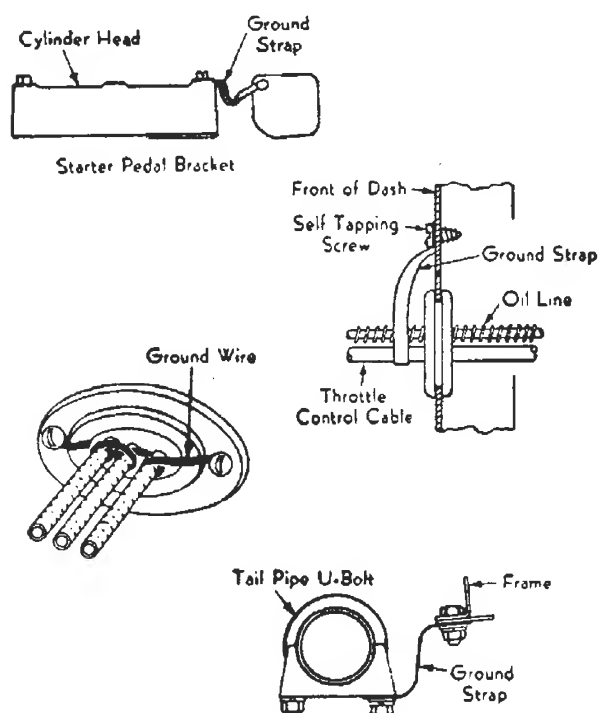

FIG. 27. Examples of bonding.
► Fig. 27 shows several examples of bonding. To make the cylinder-head-to-fire-wall connection, remove one of the bolts in the cylinder head and carefully clean around the bolt hole. Punch a hole in the braid, then slip a washer and the braid on the bolt, reinstall the bolt, and tighten it. Fasten the other end of the braid similarly to some convenient point on the frame or fire-wall of the car. Be sure enough slack is allowed for engine vibration, but don't use excessively long pieces of braid—they may get in the way of controls or have
► Fig. 27 also shows how to bond control cables with flexible braid. You should fasten one end of the braid to the fire-wall by drilling a hole in the wall and passing a self-tapping screw through the braid into the hole. Solder the other end of the flexible braid to the control cable. Be careful to allow enough slack so that the control cable can be moved throughout its range without interference.